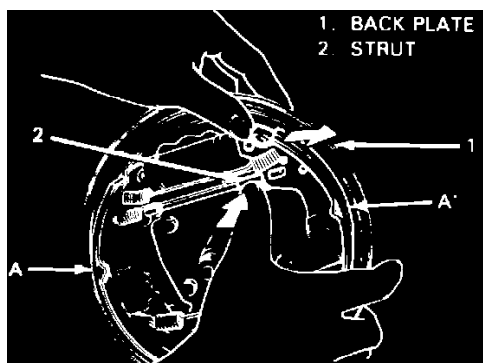

Fig. 6 Brake lining installation
22. To minimize dimension 'A-A,' Fig. 6, push strut towards backplate while pushing out on shoe as shown.